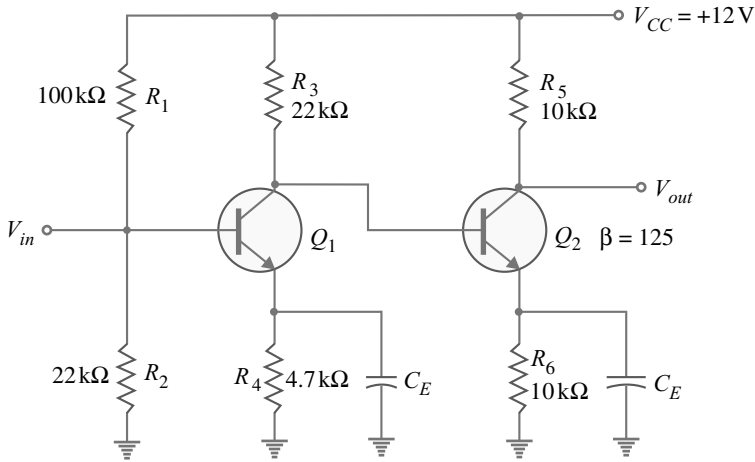

Fig. 9.29
**Example 9.30.** Fig. 9.29 shows a direct coupled two-stage amplifier. Determine (i) d.c. voltages for both stages (ii) voltage gain of each stage and overall voltage gain.